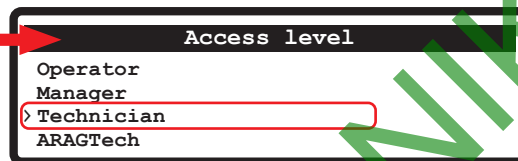

Fig. 37
- Select the user level for which you want to enter the PIN (symbol > Fig. 37) and press and hold the button ▶.